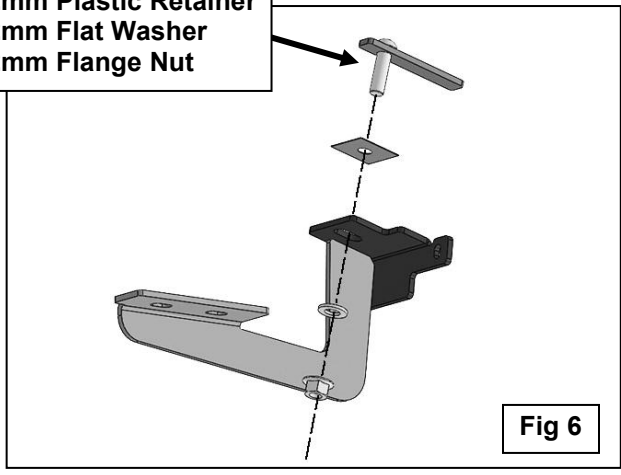

Fig 6
- Select (1) Mounting Bracket and secure it to the Bolt Plate with (1) 12mm x 24mm Flat Washer and (1) 12mm Serrated Flange Nut, **(Figure 6)**. Do not tighten hardware.